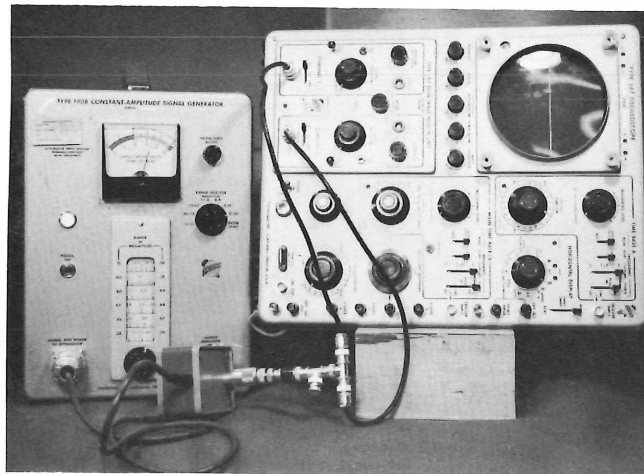

Figure 22
2. Connect the 190B to both input connectors as shown in Figure 22.